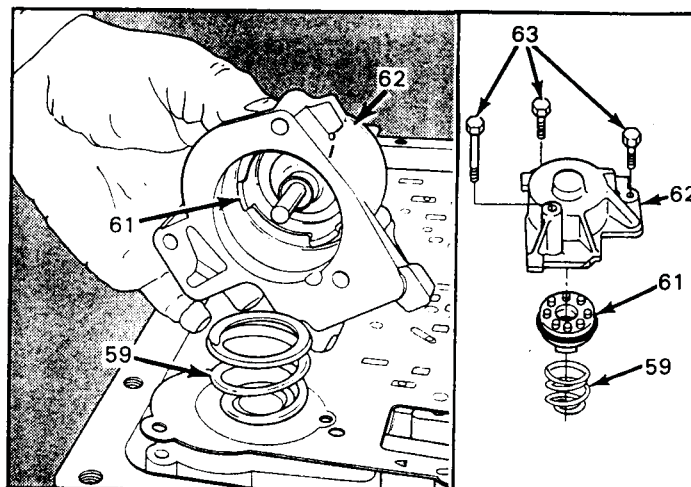

Figure 190
11. Install the 1-2 accumulator housing assembly as shown in Figure 190, and torque bolts to 8 ft.lbs.